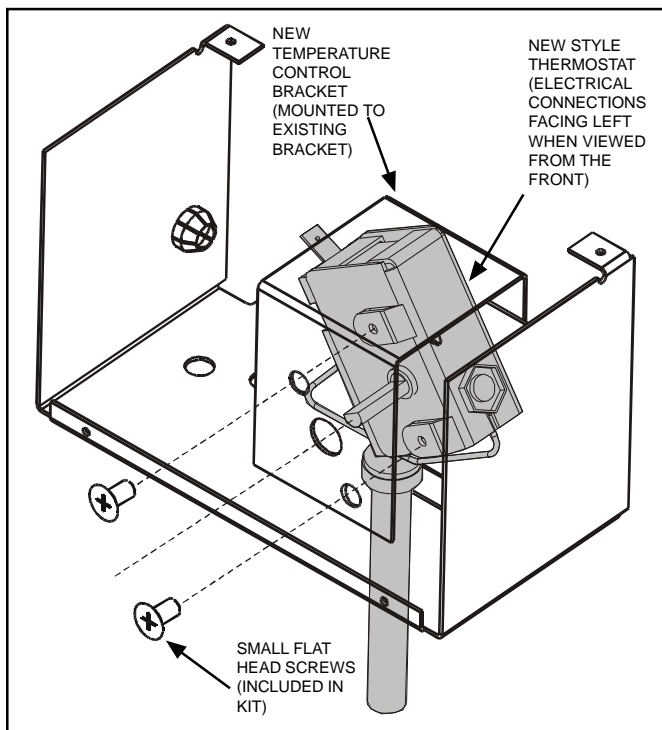

Figure 3. XL-2/XL-3 Temperature Control Mounting to Bracket Assembly (viewed from front of box).
2. Using the two small cross flat head screws mount the thermostat to the bracket. Be sure that the electrical connections on the thermostat are facing toward the left when viewing the bracket from the front. (See Fig. 3)